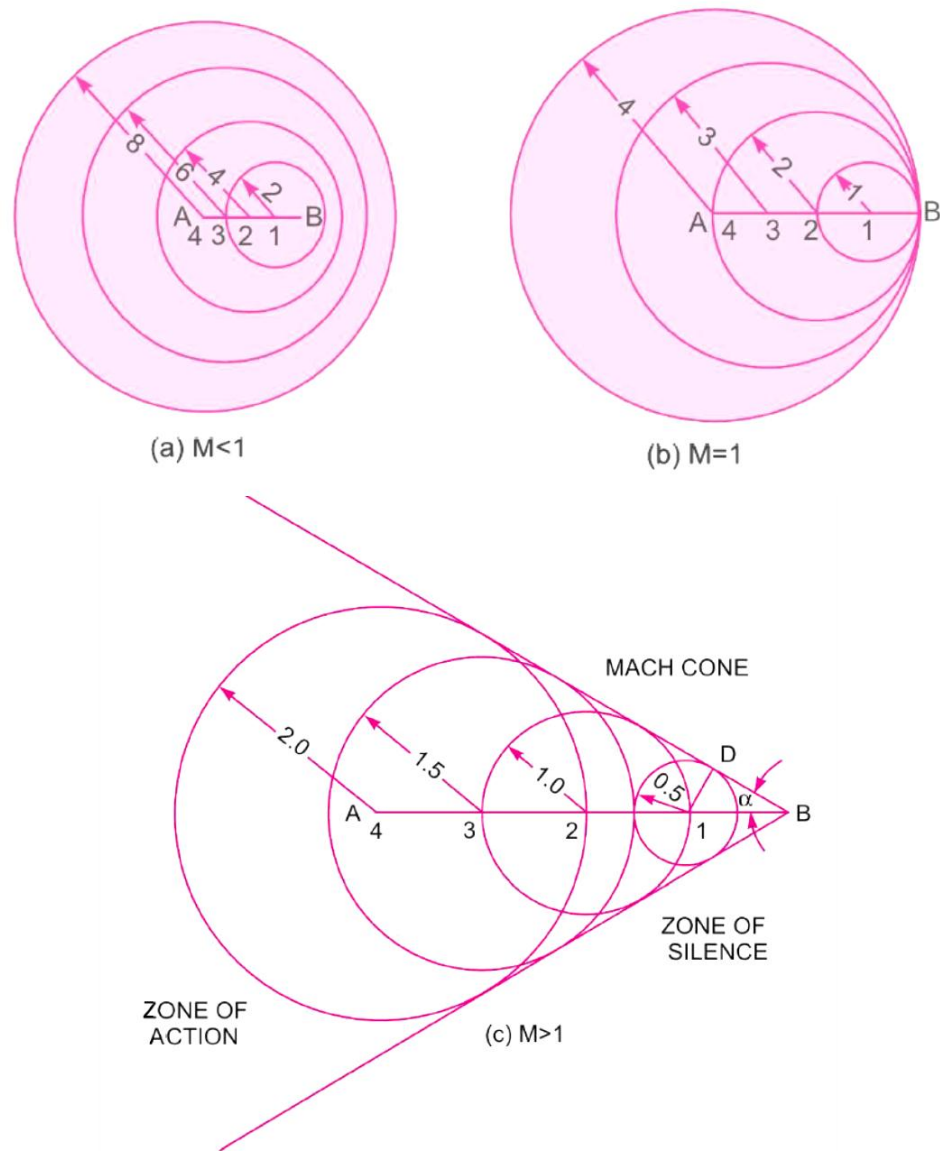

Fig.6.2 – Nature of propagation of disturbances in compressible flow
- ▶ Let the projectile is at 'A' when time  $t = 0$ , then in time 't' it will move through a distance  $AB = Vt$ . During this time the disturbance which originated from the projectile when it was at 'A' will grow into the surface of sphere of radius ' $Ct$ ' as shown in Fig. 6.2, which also shows the growth of the other disturbances which will originate from the projectile at every 't/4' interval of time as the projectile moves from A to B.
- ▶ The projectile moves from A to B in 4 seconds and hence the distance  $AB = 4 \times V = 4 \times 1 = 4$  units. The disturbance created at A in 4 seconds will move a distance  $= 4 \times C = 4 \times 2 = 8$  units in all directions. Hence taking A as a centre and radius equal to 8 units, a circle is drawn. This circle gives position of disturbance after after 4 seconds. When the projectile is at point 3, it will reach B in three seconds and distance  $3B = 3 \times V = 3 \times 1 = 3$  units. But the disturbance created at point 3 in three seconds will move a distance having a radius  $= 3 \times C = 3 \times 2 = 6$  units. Similarly at point 2, the disturbance will have a radius  $= 2 \times C = 2 \times 2 = 4$  units and at point 1, the disturbance will have radius  $= 1 \times C = 1 \times 2 = 2$  units as shown in Fig. 6.2 (a).
- ▶ Let the projectile moves from A to B in 4 seconds. The disturbance created at A in 4 seconds will move a distance having radius =  $4 \times C = 4 \times 1 = 4$  units in all directions. The projectile from point 3 will move to position B in three seconds and the disturbance created three will move a distance having a radius =  $3 \times C = 3 \times 1 = 3$  units in all directions. Similarly at point 2 and point 1, the disturbance created at these points will move a distance having radius 2 and 1 in all directions respectively as shown in Fig. 6.2 (b).
- ▶ In this case, the disturbance always travels with the projectile as shown in Fig. 6.2 (b).
at point 3, and distance  $A3 = V \times 1 = 1 \times 1 = 1$  units. The projectile from point 3 will reach B in three seconds, the disturbance will have radius  $3 \times C = 3 \times 0.5 = 1.5$  units and similarly the radius of disturbance at point 2 and 1 will be  $2 \times C = 2 \times 0.5 = 1$  unit and  $1 \times C = 1 \times 0.5 = 0.5$  unit respectively as shown in Fig. 6.2 (c).
- ▶ Let us consider two points, O in the free stream and the stagnation point S as shown in Fig. 6.2.